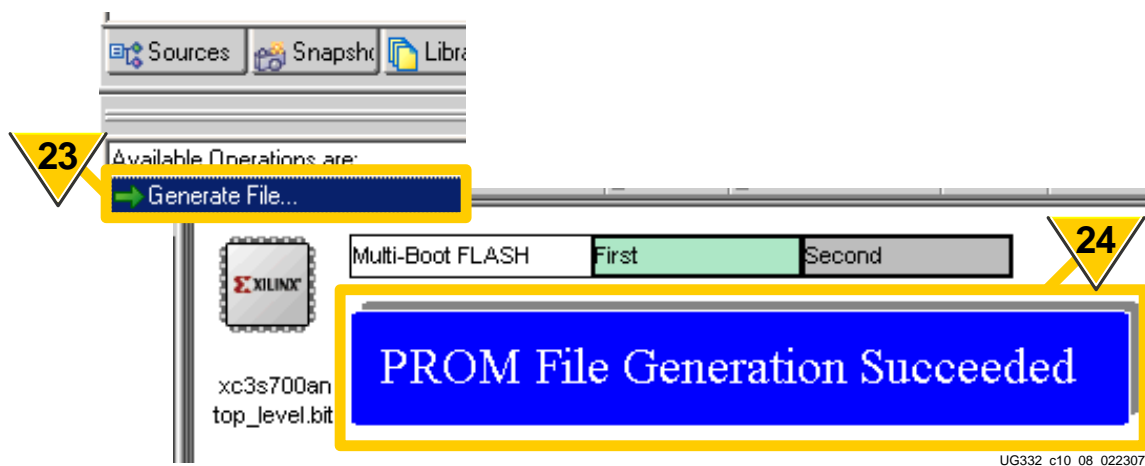

Figure 10-11: Generate the Spartan-3AN In-System Flash File
23. As shown Figure 10-11, click **Generate File**.